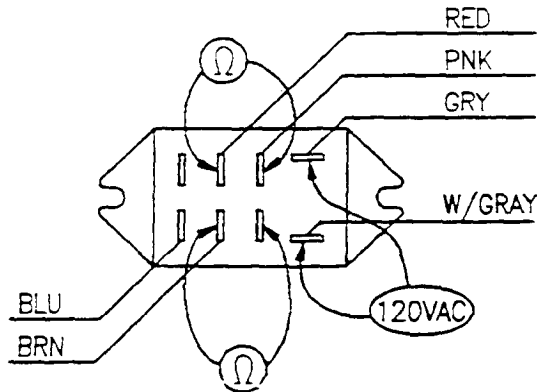

Figure 6-45- Relay R1
8. Refer to Figure 6-45, and check the insulation resistance of each heater and dryer element lead to ground. Use the element assembly stud as ground.
3. Refer to Figure 6-45, and check for continuity across relay R1 contacts going to the faulty fill valve.